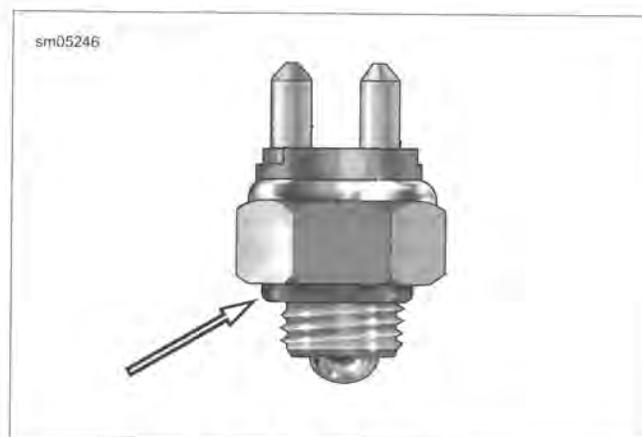

Figure 7-74. Neutral Switch O-Ring
1. See Figure 7-74. Inspect O-ring for damage. Replace as necessary. Lightly lubricate **new** O-ring with clean transmission oil before installation.